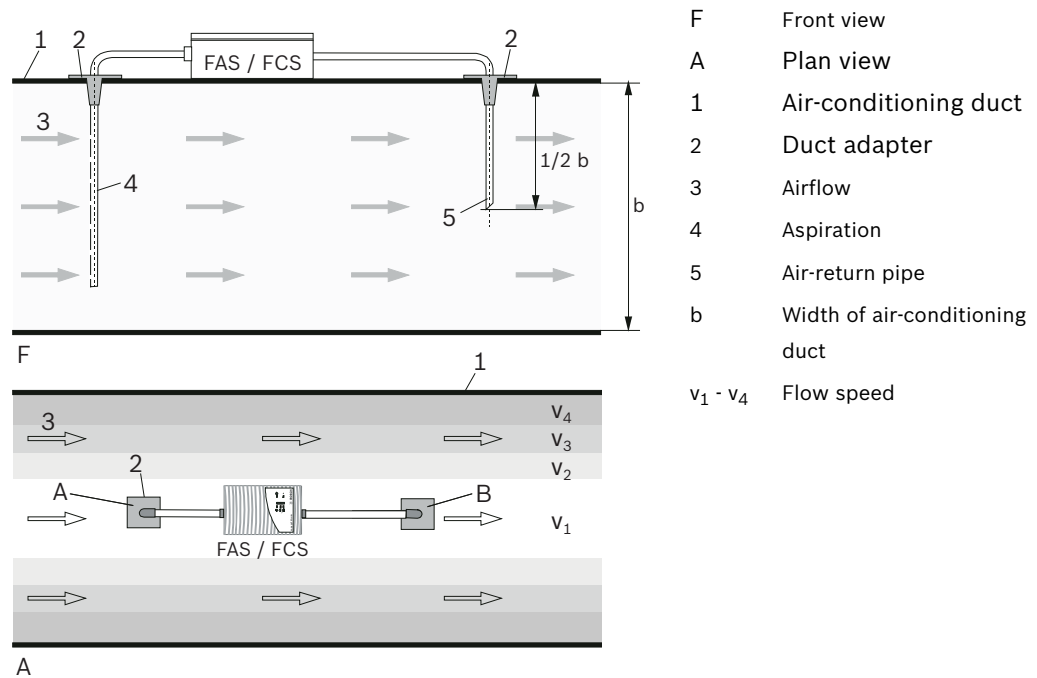

Figure 3.18 Air-return pipe
- Since the FAS-420-TM and the pipe system are located in different pressure ranges, an air return pipe (see *Figure 3.18*) must be provided.